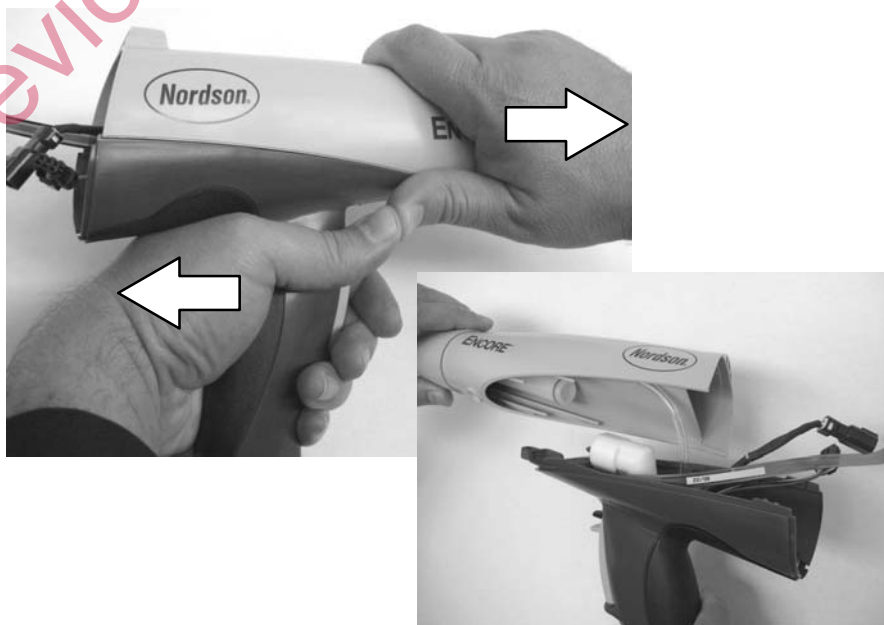

Figure 5-5 Separating Handle and Gun Body
6. See Figure 5-5. Grasp the handle in one hand and the gun body in the other. Press the thumbs of each hand together while pulling in opposite directions to separate the gun body from the handle.